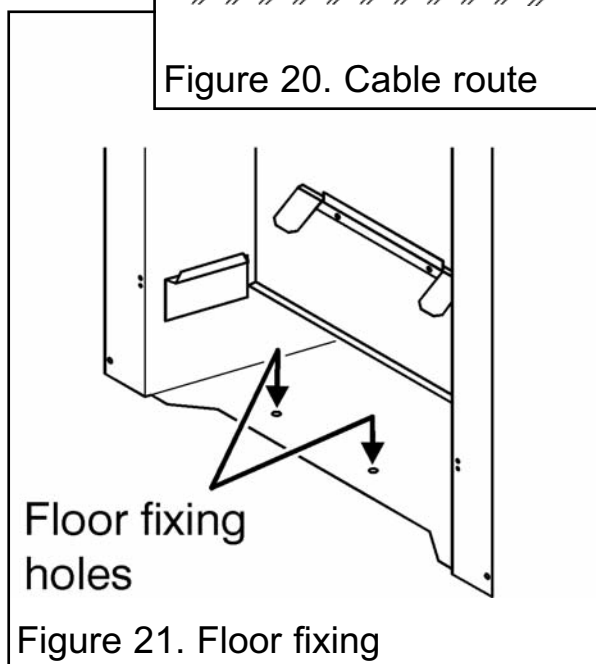

Figure 21. Floor fixing
8. Drill a hole into the fireplace floor through each of the two holes in the base of the hotbox using a suitably sized masonry drill for the fibre plugs supplied (See figure 21).